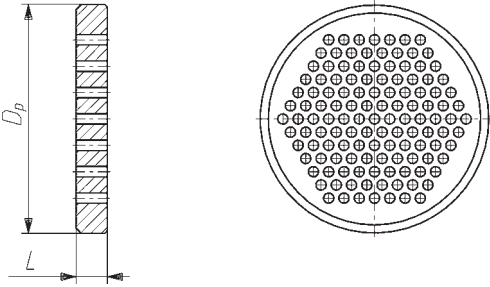

Fig. 3
2. Silencer plates on the valve outlet (fig. 3)